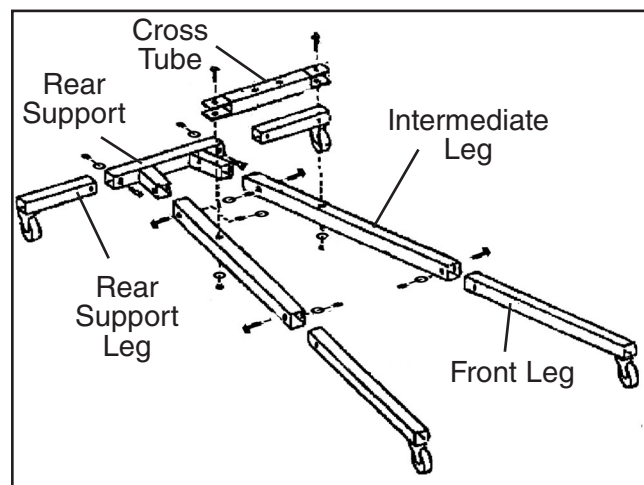

Figure 8. Base assembly.
1. Using two M14-2 x 120 hex bolts, washers, and nuts, connect the two intermediate legs together with the cross tube (**Figure 8**).
2. Insert the two intermediate legs into the rear support (**Figure 8**), and secure in place with two M16-2 x 100 hex bolts, washers, and nuts.
3. Insert the rear support legs equipped with casters into each side of the rear support (**Figure 8**), and secure the legs in place with two M14-2 x 80 hex bolts, washers, and nuts.
4. Insert the front legs equipped with casters into each intermediate leg (**Figure 8**), and secure the legs together with two M14-2 x 80 hex bolts, washers, and nuts.